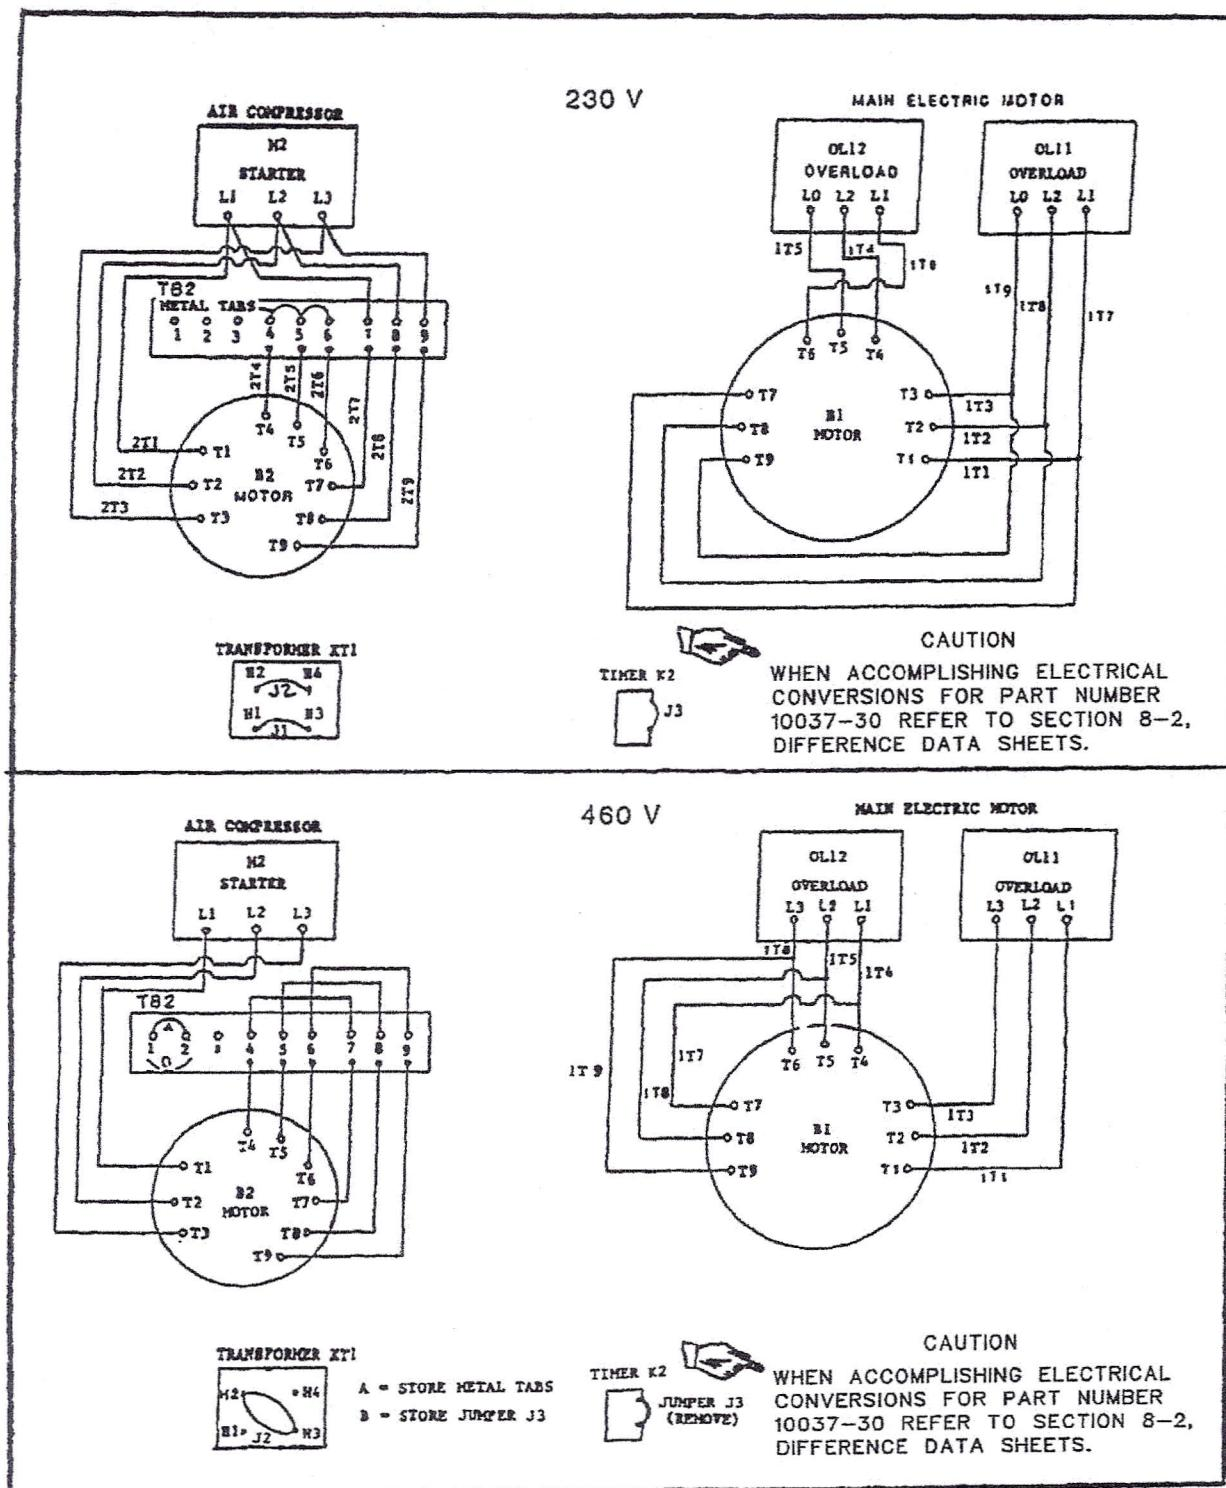

Figure 3-1. Electrical Conversion
3-9. OPERATION AT 230 V OR 460 V. The unit is designed for 230 V operation and can be converted to 460 V. Both conditions are explained below and shown in Figure 3-1. Prior to usage the user should check the electrical panel against Figure 3-1 to positively determine what state of operation (230 or 460) the unit is currently in. The entire conversion can be accomplished within the electrical panel Figure 4-5.
a. Main Electric Motor (Figure 3-1)
(1) Disconnect from overload OL11 the electric motor lines 7, 8, and 9. Reconnect line 7 to OL12 line 1 position, line 8 to OL12 line 2 position and line 9 to OL12 line 3 position.
(1) From TB2 remove metal jumper tabs located at terminals 4, 5, 6 and store in terminals 1 and 2 (top).
(2) On motor starter M2 (11, Figure 4-5) disconnect (at starter end only) wires coming from TB2 terminal 9, terminal 8, and terminal 7. Connect loose end of terminal 9 wire to TB2 terminal 6, terminal 8 to terminal 5, and terminal 7 to terminal 4 respectively (See Figure 3-1).
(1) Disconnect at terminal H1 (Figure 3-1) jumper (J1) coming from H3 and reconnect to H2.
(2) Disconnect at terminal H4 jumper (J2) coming from H2 and reconnect at H3.
d. When completed, wiring should be as shown on Figure 3-1, 460 V operation.
a. Transformer (Figure 3-1)
(1) Disconnect at terminal H2 (Figure 3-1) jumper coming from H3 and reconnect at H1.
(2) Disconnect at H3 jumper coming from H2 and reconnect at H4.
(1) On TB2 (14, Figure 4-5) disconnect wire on terminal 4 and reconnect at motor starter M2 line 1 position (Figure 3-1).
(2) On TB2 disconnect wire at terminal 5 and reconnect on motor starter M2 line 2 position.
(3) On TB2 disconnect wire at terminal 6 and reconnect on motor starter M2 line 3 position.
(4) On TB2 remove metal jumper tabs from terminals 1 and 2 and insert into terminals 4, 5 and 6.
c. Main Electric Motor (Figure 3-1)
(1) Disconnect from overload OL12 the electric motorlines 7, 8, and 9. Reconnect line 7 to OL11 line 1 position, line 8 to OL11 line 2 position, and line 9 to OL11 line 3 position.
d. When completed, wiring should be as shown on Figure 3-1, 230 V operation.